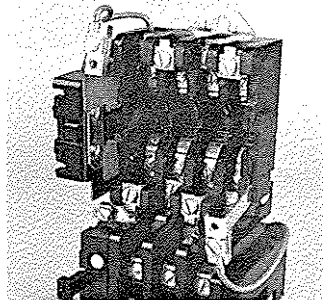

Figure 2.
5. Slide the angled flanges on the auxiliary contact bracket into the keyed slots in the molded base as shown in Figure 2.